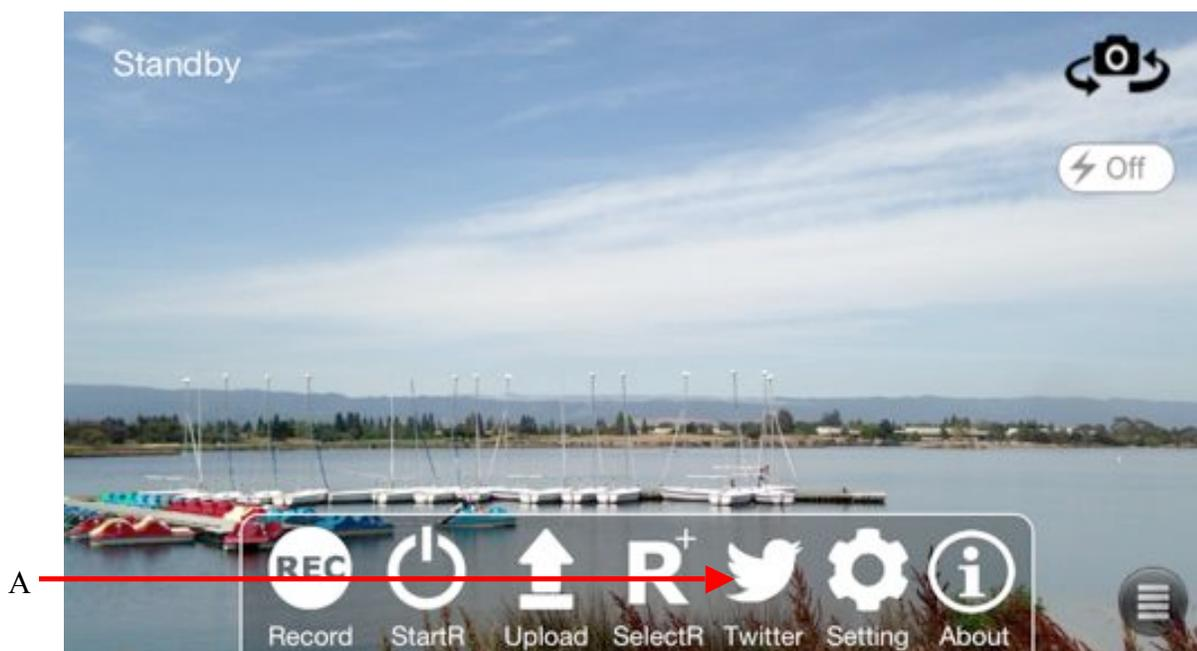

Figure 14
The TVU Anywhere Pro app can be downloaded for free from the App store on your iPhone, iPad or iPad Mini. Once the app is downloaded and you have launched the app, simply tap on the Twitter icon (A) on the TVU Anywhere Pro interface (Figure 14).